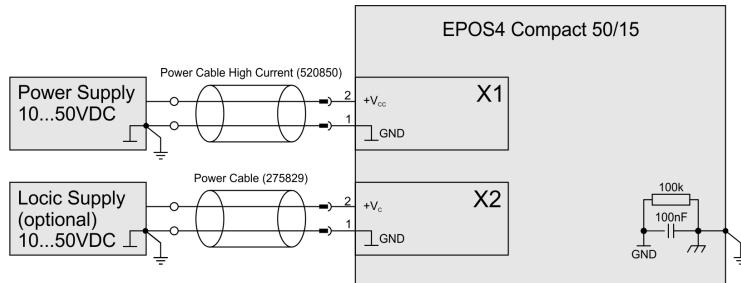

Figure 5-63 Power & logic supply
**Power supply & optional logic supply** ..... Figure 5-63
Power supply & optional logic supply ..... Figure 5-63